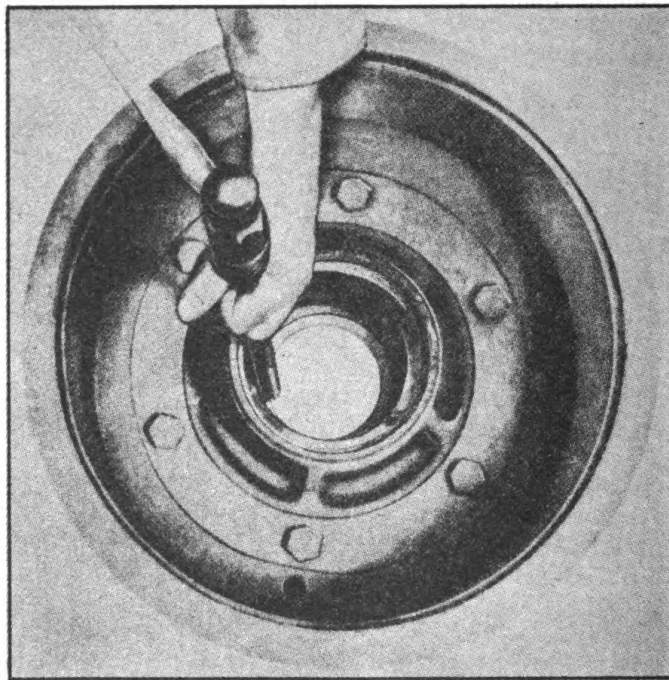

FIGURE 74. CUP REMOVAL
5. BEARING CUPS (Figure 74).—*a. Removal.*—Place a soft steel bar on the inside shoulder or edge of the cup to be removed. Using a heavy hammer, hit first on one side of the cup and then the other. By alternating in this manner, the cup will come out straight with the cup bore. Danger of wedging of the cup in the bore is minimized.
b. Installation.—(1) With the wheel on its side, start the new cup square with the bore so that its smallest inside diameter will be on the inside when it is in place.